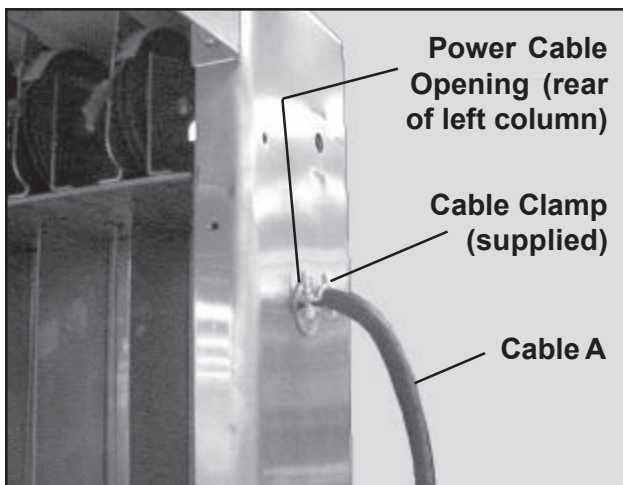

Figure 8. Cable A Mounted to Power Cable Opening
1. Unscrew the nut from the cable clamp supplied (Figure 8).